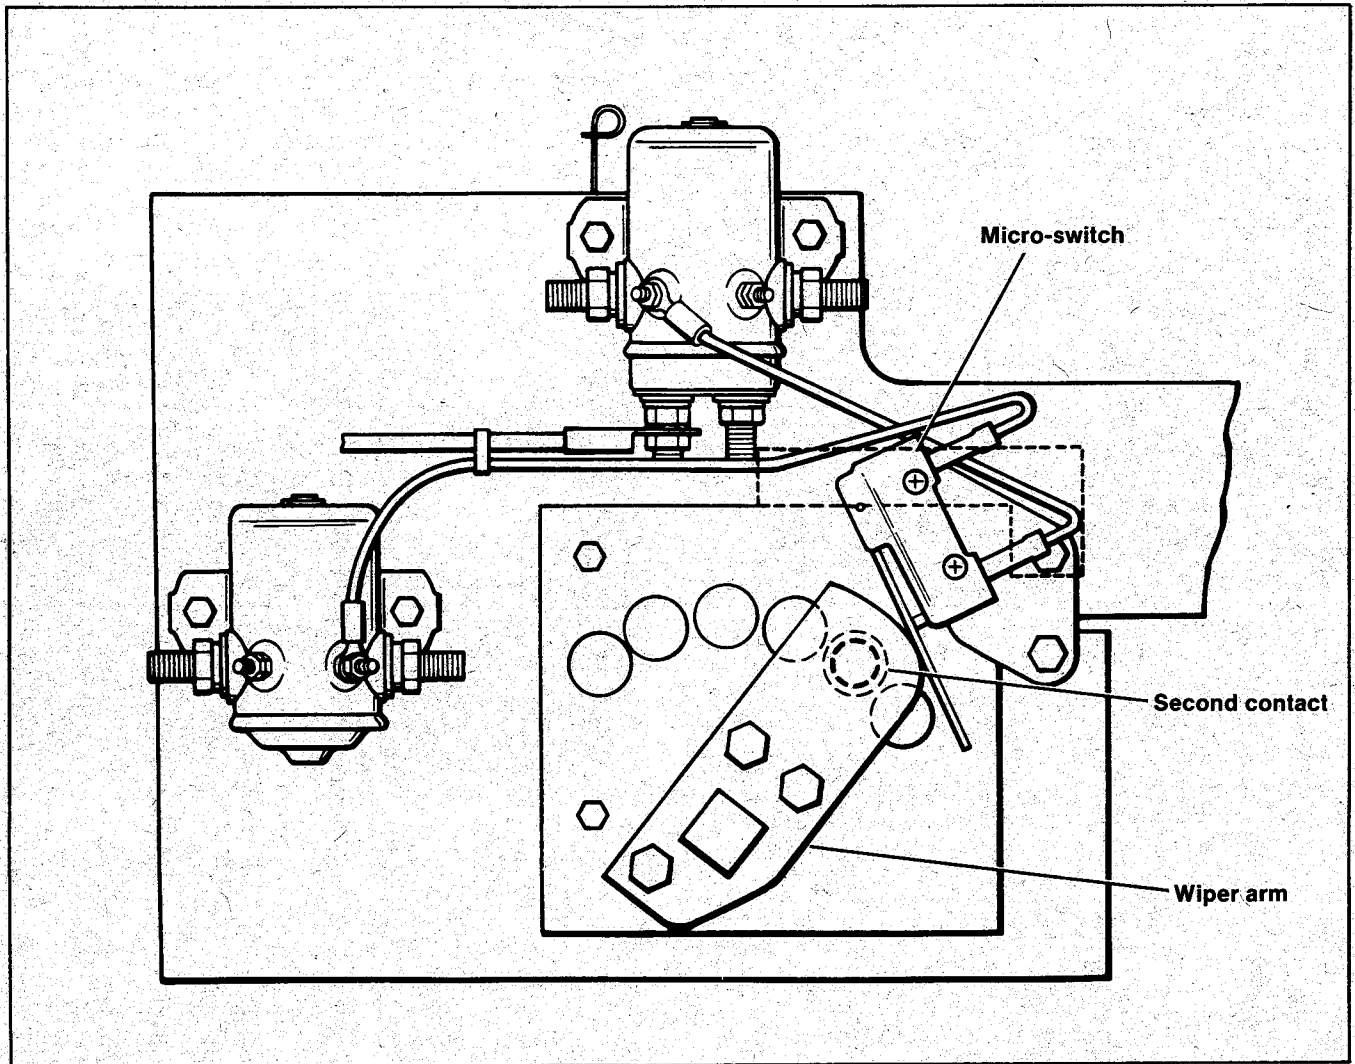

Figure 2-9. Speed Switch Position when Parking Brake Releases
3. With the parking brake locked, depress accelerator pedal while observing speed switch wiper arm. Parking brake must release when speed switch wiper arm is squarely on second contact of speed switch (Figure 2-9). If the wiper arm is not in correct position when brake releases, it will be necessary to readjust accelerator pedal bracket.